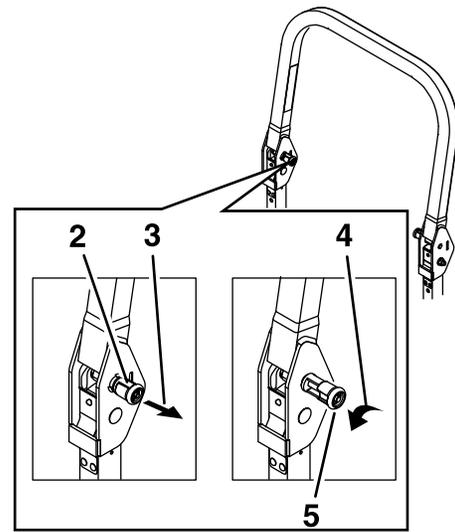

Figure 10
2. Pull both knobs out and rotate them 90 degrees so they are not engaged (Figure 10).
3. Lower the roll bar to the down position (Figure 10).